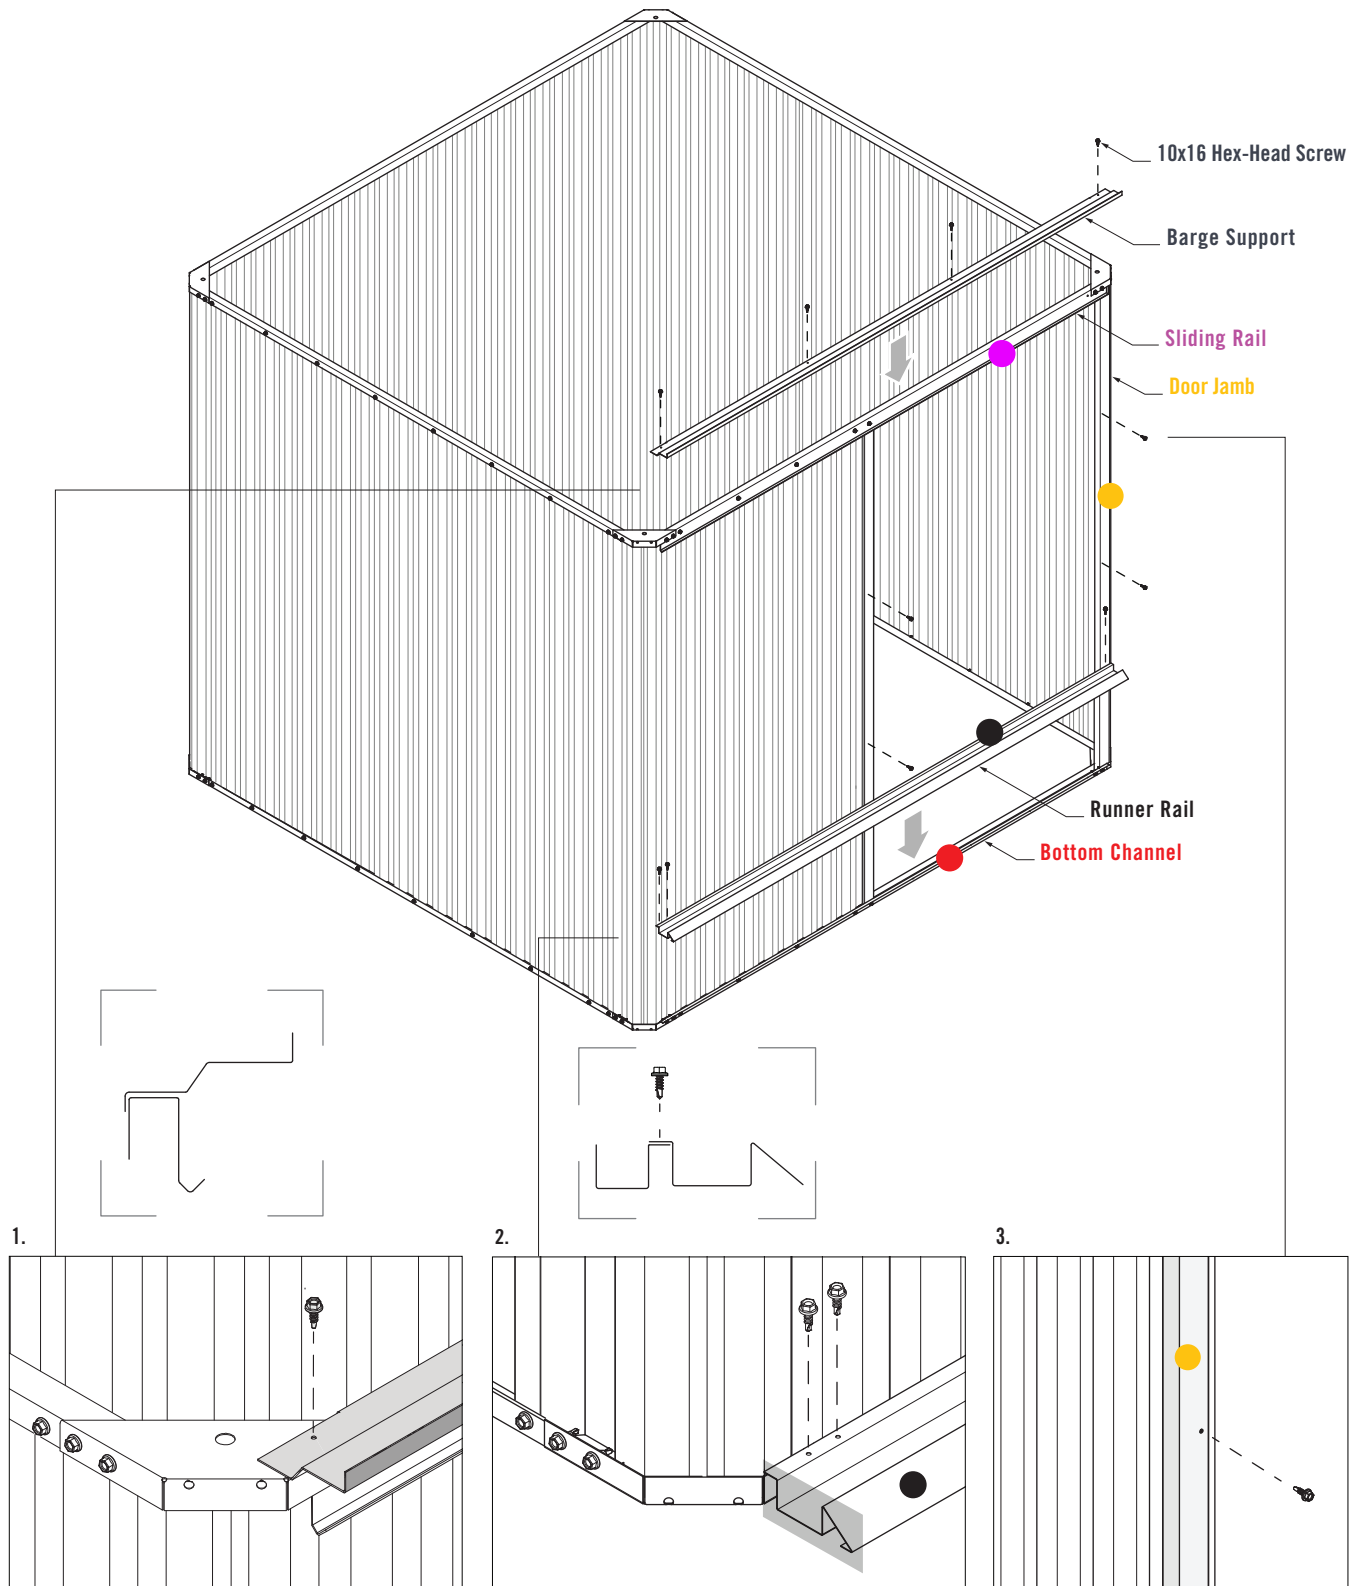

FIGURE 6.2
1. Fit the Barge Support over the **Sliding Rail**. Fasten four 10x16 Hex-Head Screws through the pilot holes in the Barge Support and into the **Sliding Rail** (Figure 6.2).
2. Fit the Runner Rail over the **Bottom Channel**. Ensure the end of the Runner Rail is in line with the edge of the Corner Bracket. Fasten three 10x16 Hex-Head Screws through pilot holes in the Runner Rail and into the **Bottom Channel** (Figure 6.2).
3. Fasten two 10x16 Hex-Head Screws through the pilot holes of both **Door Jambs** and into the Corner Wall Sheets (Figure 6.2).